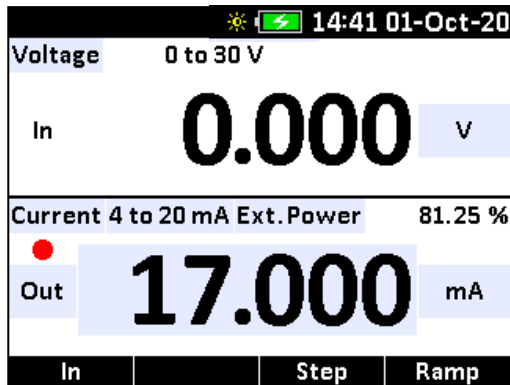

Figure 8
3. Connect the loop, as shown in Figure 8.